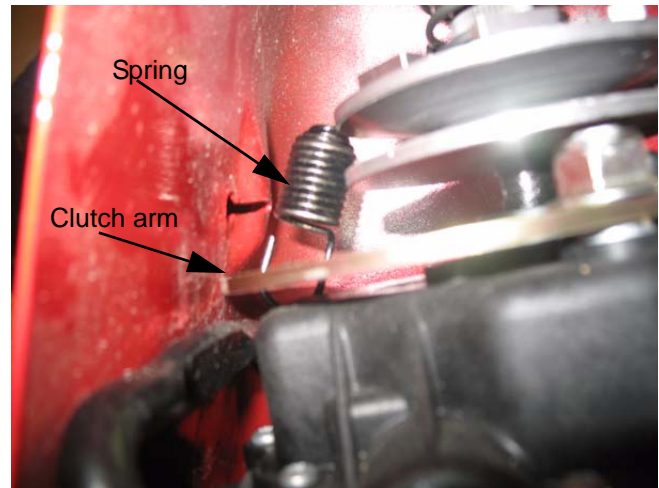

Figure 5.18
4. Once the cable housing is released from the bracket, the spring on the end of the cable core can be un-hooked from the clutch arm on the transmission. See Figure 5.18.